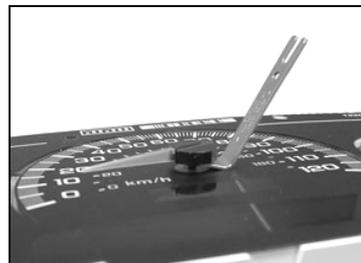

Figure 5
- B. Using the Pointer Removal Tool, slide the end marked “Pointer Remover” under the center of the pointer cap (see figure 5).